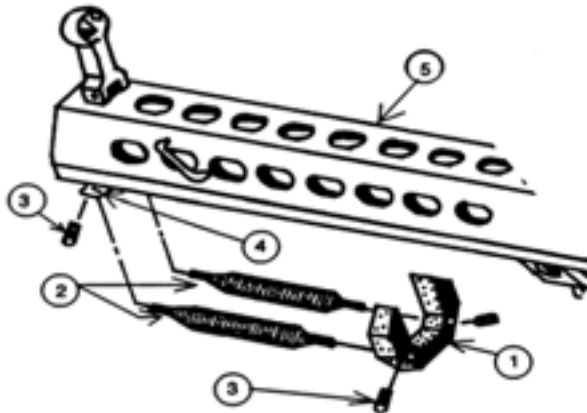

Figure 2-18. Disassembling the Barrel Key/Springs
- (1) To remove the barrel key (1), Figure 2-18, and springs (2), use the 3 mm hex wrench to remove the four barrel spring screws (3) from both the barrel key and the front barrel bushing (4) of the upper receiver (5).